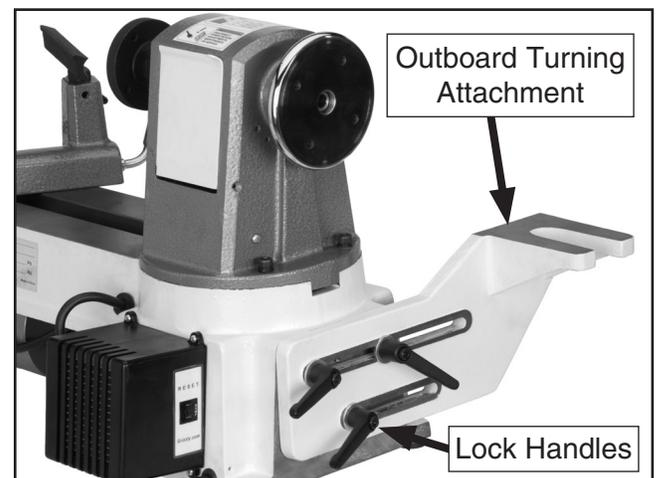

Figure 11. Outboard Turning Attachment
4. Firmly tighten the handles to secure the outboard turning attachment in position (**Figure 11**).